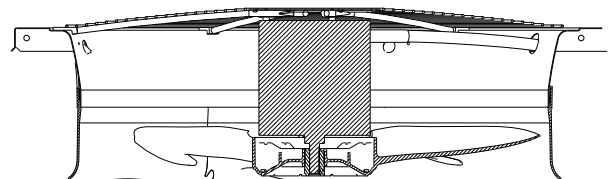

Fig. 35 — Condenser Fan Adjustment
2. Remove condenser-fan assembly (grille, motor, and fan). See Fig. 35.